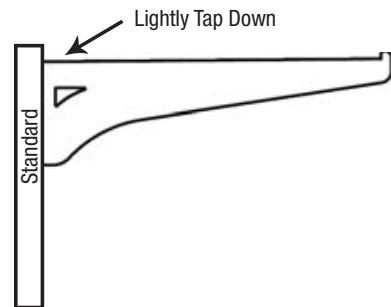

Figure 2
STEP 3: Once the Standards are mounted insert each 8" Single Track Bracket at the desired height and lightly tap each bracket down with a hammer as shown in **Figure 2**.